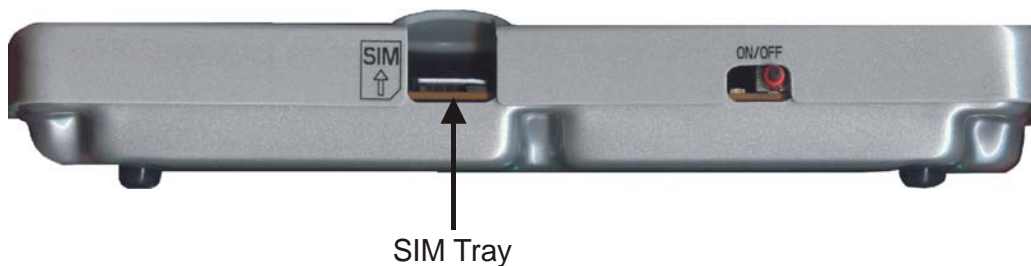

Figure 2-5: SIM Tray
- Insert a SIM card (Figure 2-5) into the SIM tray (J100) with the contacts down and the cut-off corner to the front and right